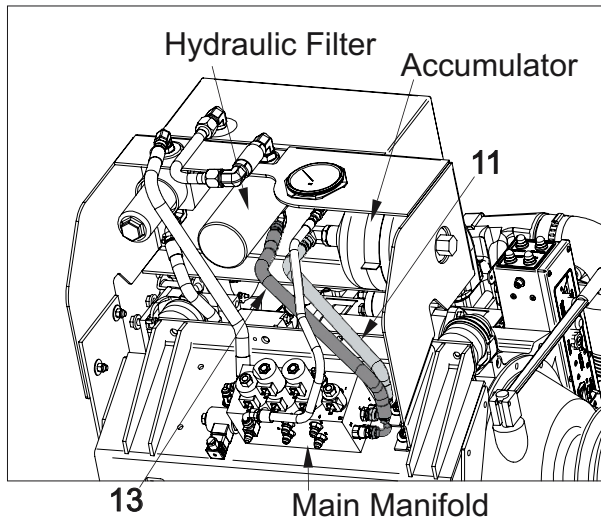

Figure 12 - Install Accumulator and Hydraulic Filter Hose
- A. Connect hose (13) 237921 to port “H” on hydraulic manifold (see Figure 12). Connect other end to oil filter (see Figure 12).